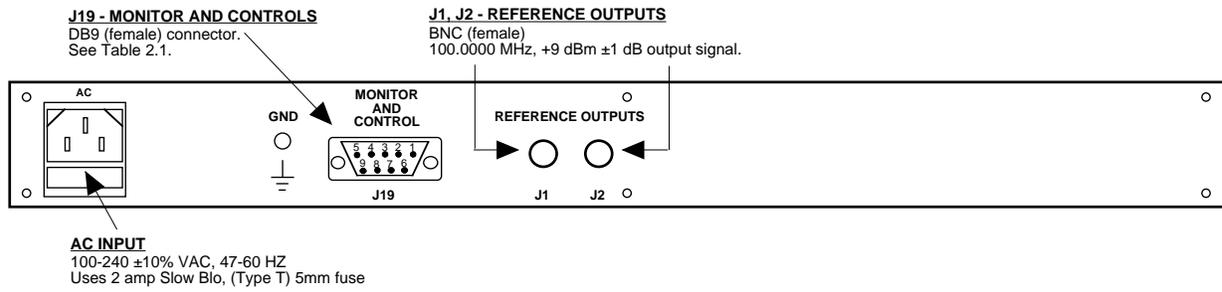

FIGURE 2.1 2099-100 Rear Panel Outputs
2.2 Rear Panel Output Signals - Figure 2.1 shows the input and output connectors on the rear panel.
- 1.) Connect REFERENCE OUTPUTS, J1 and/or J2, to the external equipment (Figure 2.1).